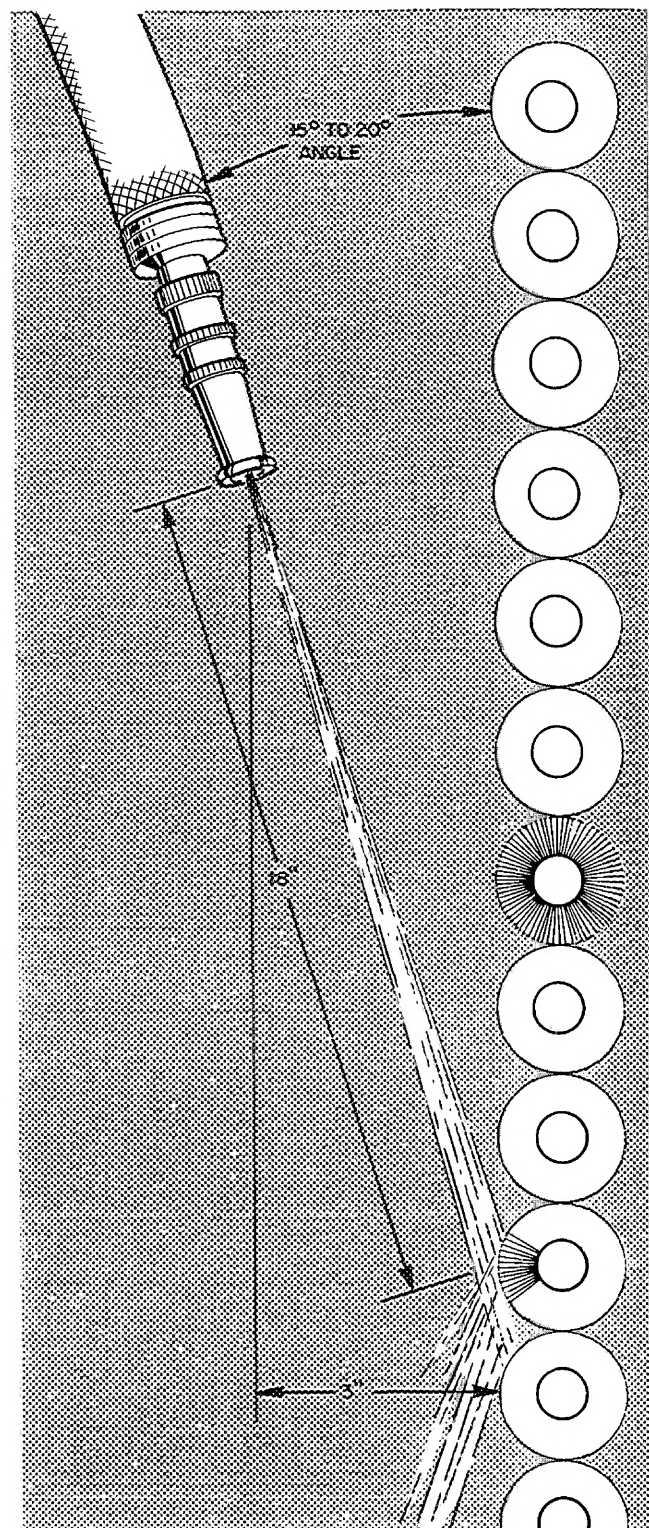

Fig. 17 — Positioning Hose to Spray Coil
- Using garden hose, spray coil perpendicularly to coil tubes with a constant stream of water at moderate pressure (see Fig. 17). Keep nozzle at a 15 to 20 degree angle, about 3 in. from coil face and 18 in. from tube. Spray so debris is washed out and away from coil making sure water does not contact components on side of chassis.